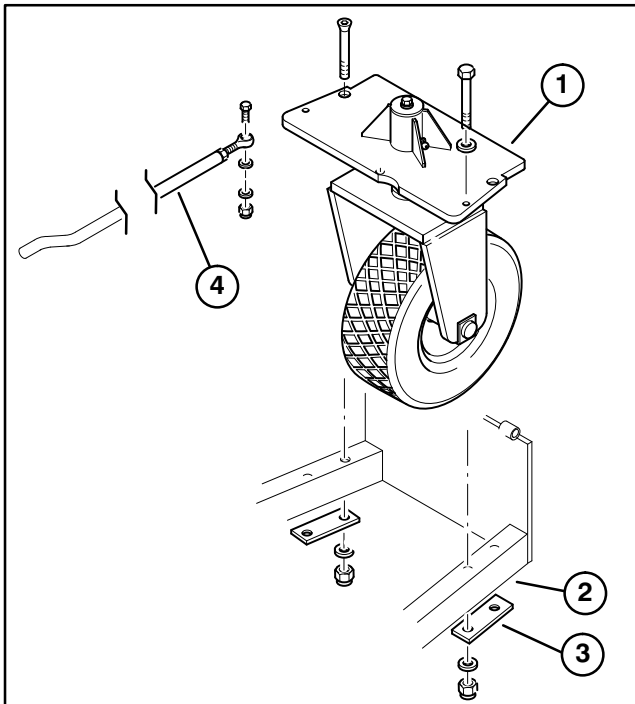

Figure 2
5. Position castor mounting plate onto traction unit frame rails aligning mounting holes as shown in figure 2.